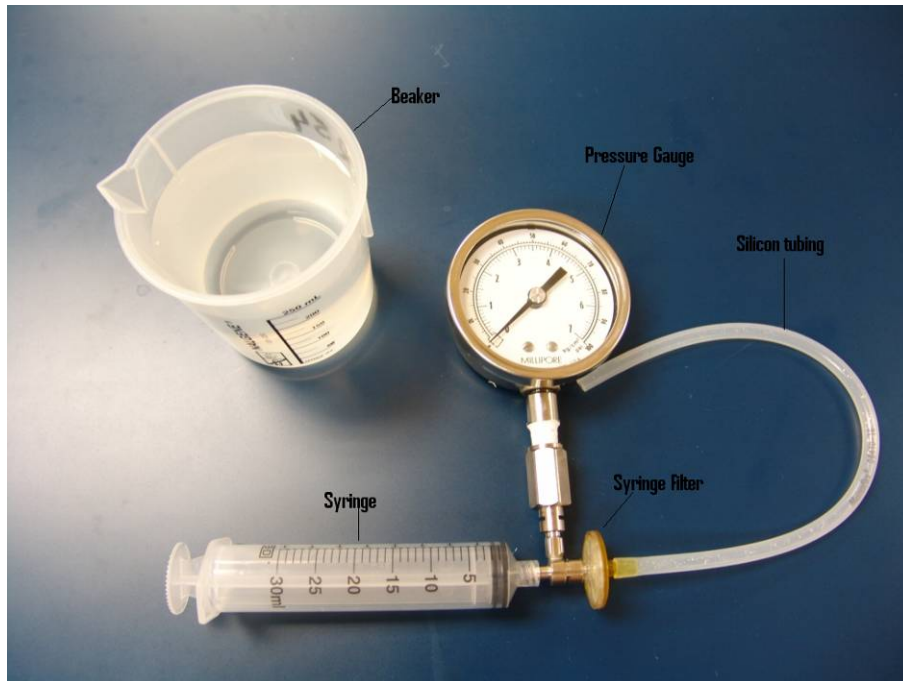

Figure 1: Bubble Point Assembly
8.6. Refer to figure 1 for bubble point assembly and perform the following steps.
- 9.1. Figure 1: Bubble Point Assembly